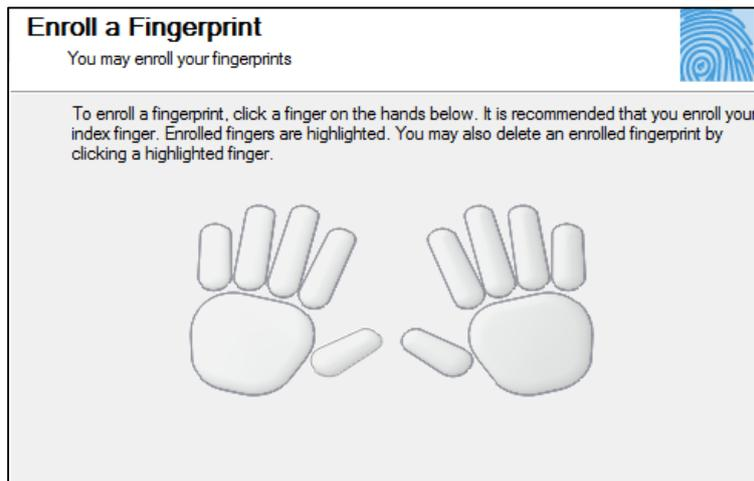

Figure 2
3. Select a finger on the screen, **Figure 2** will appear.